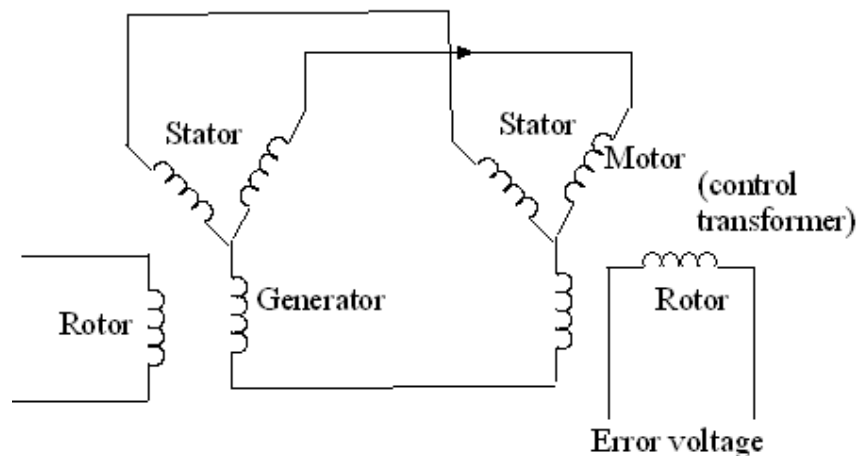
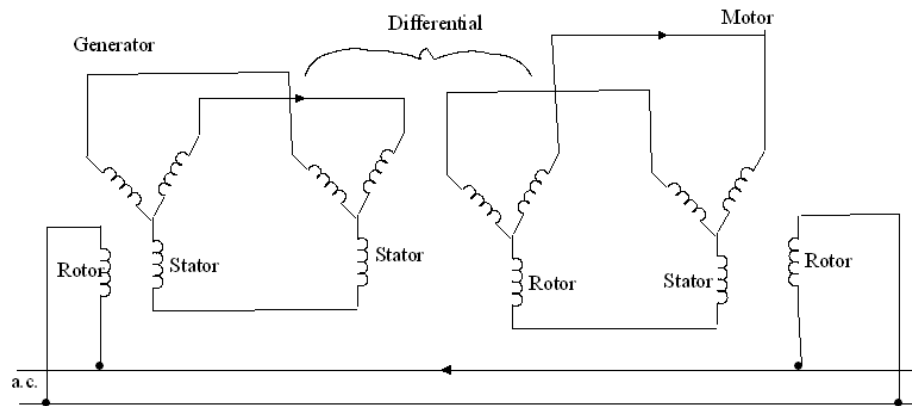

Fig P3
Fig P4
- for indicating the difference in positions, as generator – transformer combination (Fig P3)
- as differential selsyns (Fig P4)
Selsyns as position indicators: If the circuit to the rotor of the motor is opened (Fig P3) a voltage will be produced in the rotor winding, the magnitude of which is a function of the angular position of the rotor of the motor w.r.t. that of the generator rotor. When the motor rotor is at a position of 90 electrical degrees from the position occupied and the rotor is electrically connected and free, the magnitude of the rotor voltage will be zero. Then any movement of the generator rotor will produce a voltage in the motor rotor which is a function of the angular position of the generator rotor (or other equipment coupled to it). This circuit has found use in many servomechanism systems. For this application the motor unit serves just as a control transformer.
A third useful application of the selsyn system is that of the differential selsyn shown in Fig P4; this is constructed like a wound rotor induction motor having a 1:1 ratio of turns. When the rotors of the motor and generator of Fig P3 are in a given position, the differential selsyn will adjust the position of the rotor to its stator such that minimum current flows in its windings. With the rotor of the motor locked in a particular position, a change in the position of the generator rotor will cause a corresponding change in the position of the rotor of the differential selsyn. In this way the circuit of Fig P4 performs the same function as that shown in Fig P3.